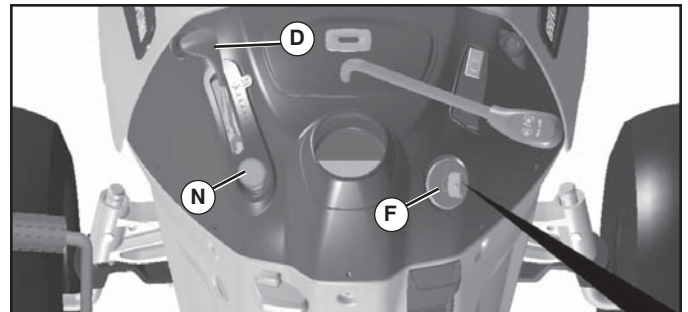

FIG. 7
TO USE THROTTLE CONTROL (D) (See Fig. 7)
TO USE CHOKE CONTROL (N) (See Fig. 7)